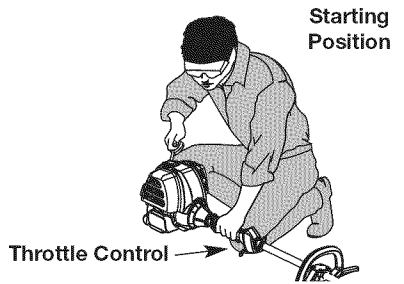

Fig. 12
**WARNING:** Avoid accidental starting. Make sure you are in the starting position when pulling the starter rope (Fig. 12). To avoid serious injury, the operator and unit must be in a stable position while starting.
5. Crouch in the starting position (Fig. 12). Press the throttle lockout in and fully squeeze the throttle control lever. Pull the starter rope 5 times.